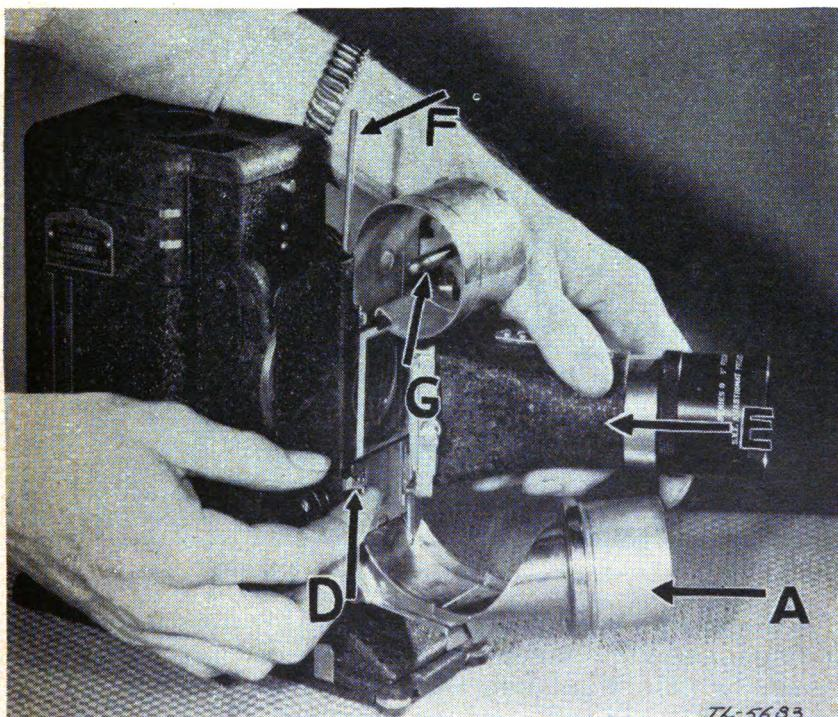

FIGURE 71.—Projector PH-222—showing film gate.
- b.* Open film gate by releasing catch spring *D* (fig. 71) and swinging lens barrel *E* to the left.